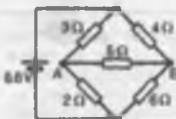

Figure 13.51
- 5 For the bridge network shown in Fig. 13.51, find the current in the 5Ω resistor, and its direction, by using Thévenin's theorem. [0.153 A from B to A]